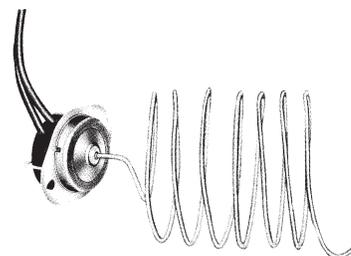

Figure 24.
The linear thermal cutouts (both automatic and manual reset) sensing element (Figure 24) is a fluid-filled capillary tube, strung across the entire heater width. If any 6" (152 mm) segment of the capillary is overheated, the cutout will de-energize the entire heater, providing
**Finned tubular heaters** – Triple overheating protection is standard for finned tubular heaters. In addition to the automatic disc thermal cutout, Figure 22, both automatic and manual reset linear cutouts, Figure 24, are furnished.